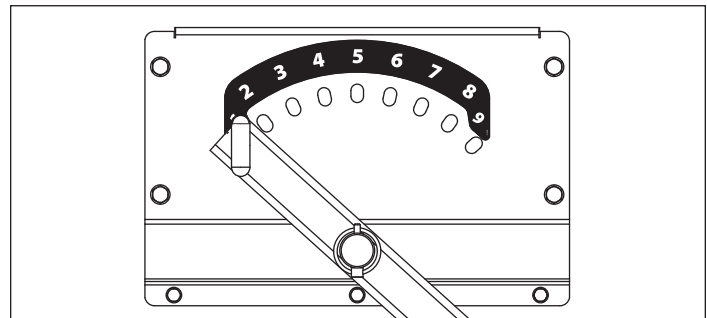

Figure 11
- b. Position the tow bar at the desired numbered offset hole on the deck mount degree plate. *See Figure 11 and Table 1*